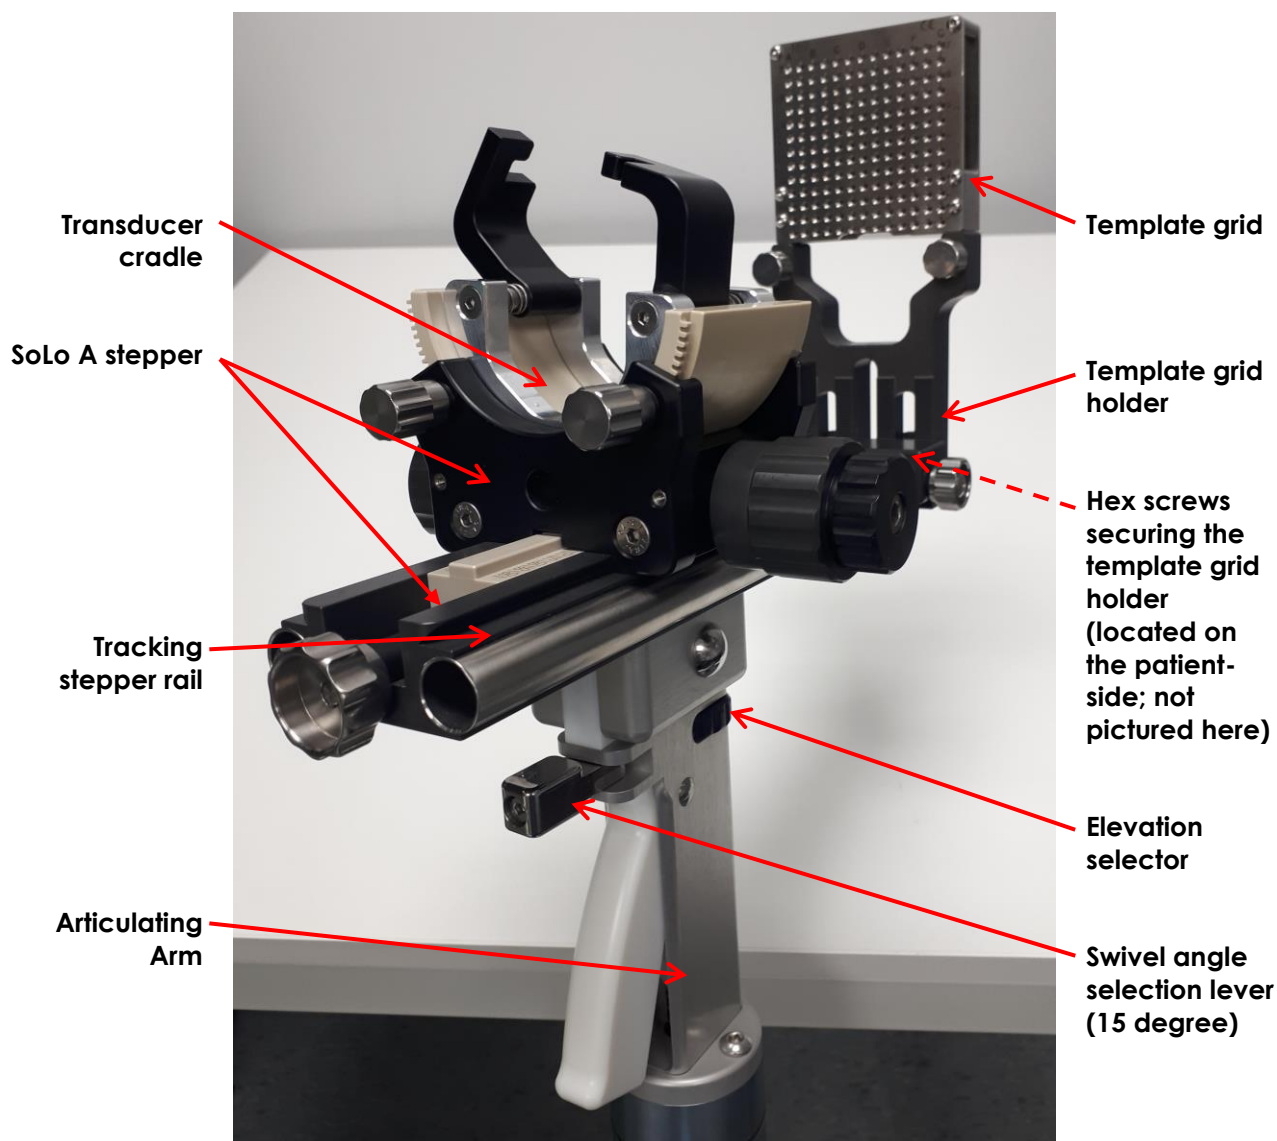

Figure 11: Transperineal Stepper Parts Requiring Disinfection
Equipment must be cleaned as appropriate for the procedure prior to each use. After every use, follow proper procedures for cleaning and waste disposal. Figure 11 identifies parts of the transperineal stepper that require cleaning, disinfection and sterilization.
- Instructions to clean, disinfect and sterilize the tracking stepper rail, reusable template grid, template grid holder, transducer cradle (refer to Figure 11)